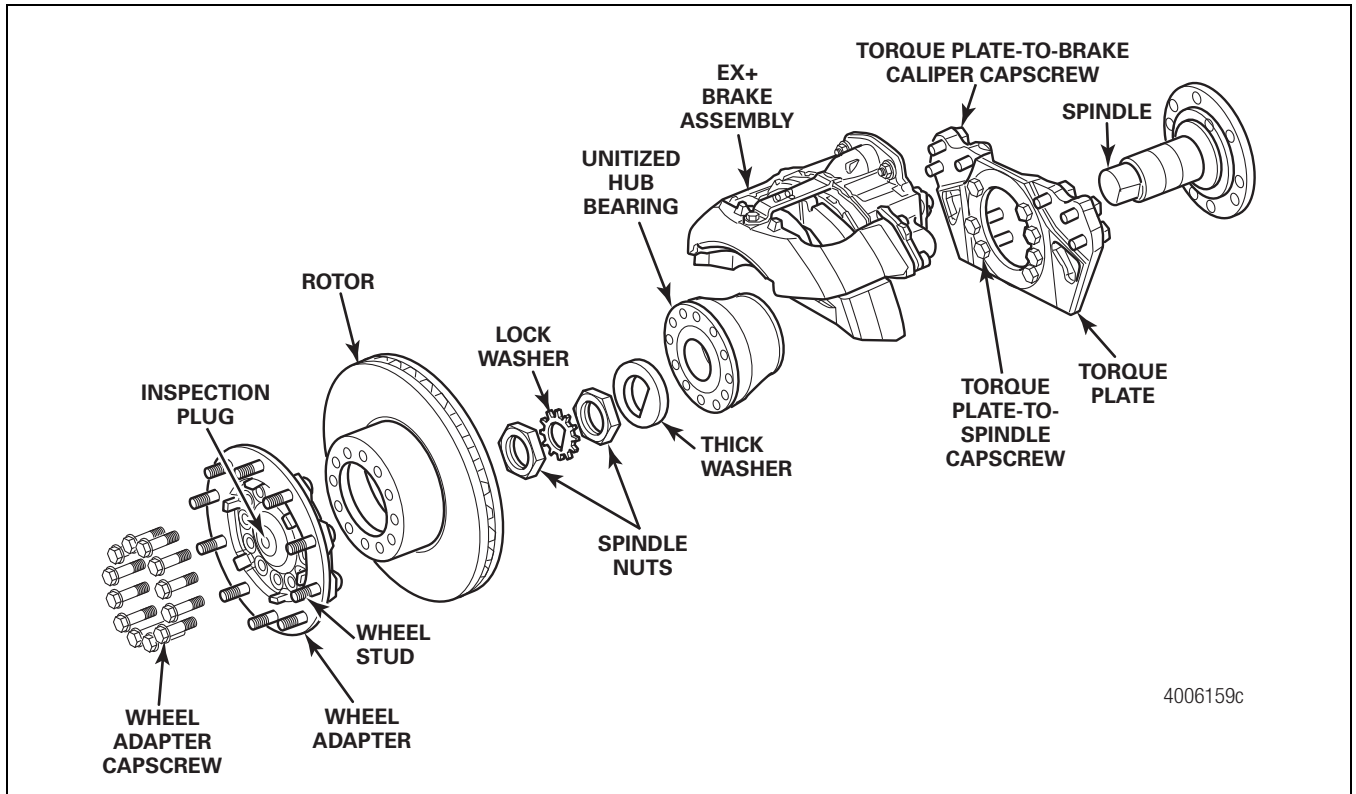

Figure 6.15
- 4. Install the unitized hub bearing onto the knuckle spindle. Use care to avoid damaging the O-ring on the spindle threads. Figure 6.15.